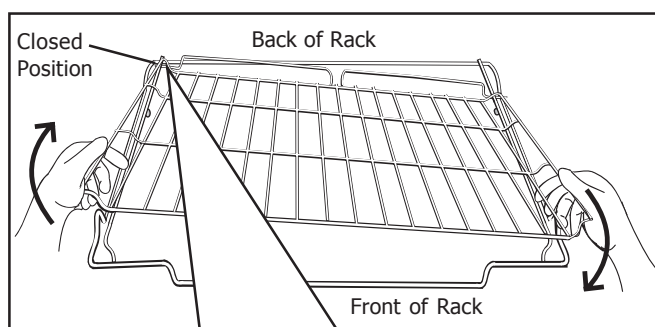

Figure 2 - Taking the Rack Apart
**The two sections of the rack are designed to come apart for easier cleaning.** To do so, place rack on flat surface in the closed position top side up. Rotate one side of top rack towards you until it is past the stop (ball). Pull the rack up and out, rotated side first (See Figure 2).